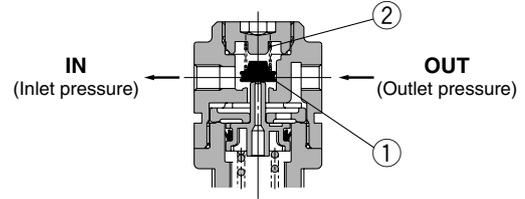

Figure 2
When the inlet pressure is shut off and exhausted, any inlet pressure applied to the valve ① will be lost. The force for seating valve ① is the valve spring ② force only. When valve ① is opened using the outlet force, the outlet pressure will be exhausted at the inlet side. (Figure 2)